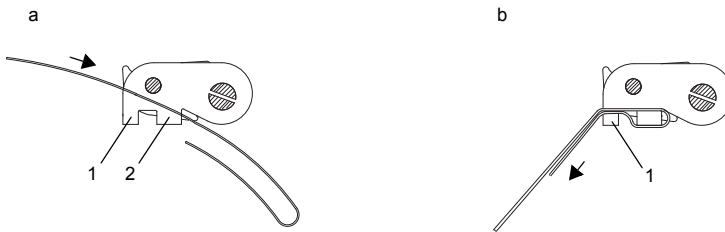

Fig. 7.5: Ratchet clasp with tension strap
- Insert approx. 10 cm of the tension strap through the parts (1) and (2) of the clasp (see Fig. 7.5 a).
- Insert the tension strap in part (1) of the ratchet clasp (see Fig. 7.5 b).